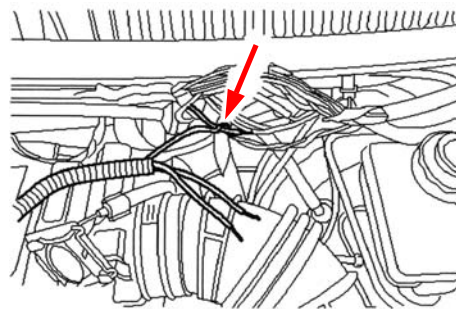

Fig. 4
- With the aid of CWT soldered connectors (Hella part number 8KW 744 888-003), connect the cable ends of the modified cable connector to the other cables (see Fig. 4).